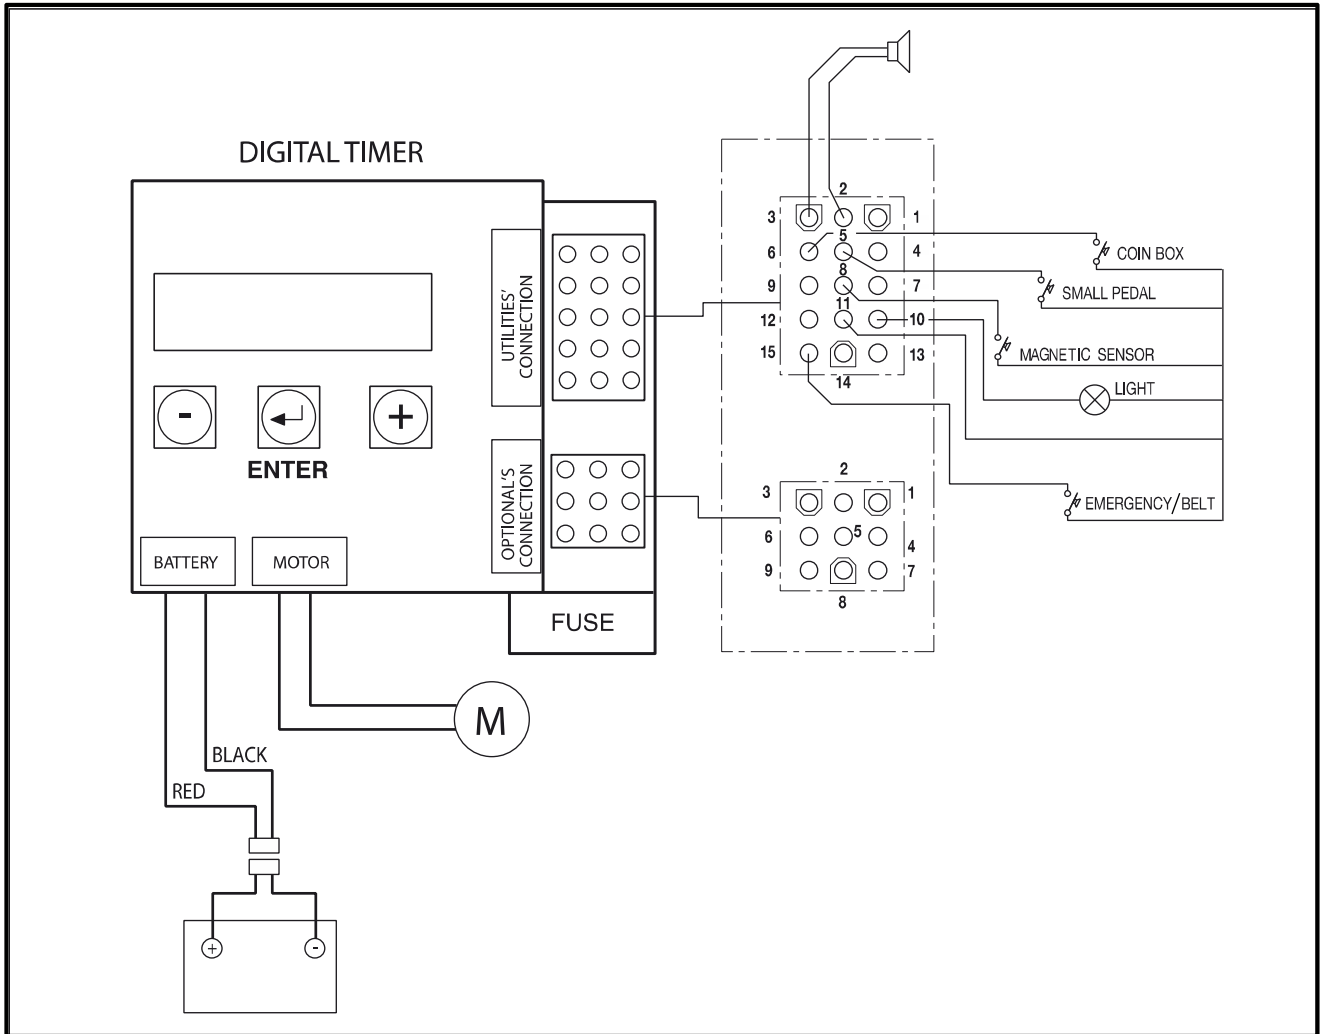

Fig. 19
- Connect the battery charger cable to the Automatic Game (Fig.19) using the special safety connector against polarity inversion.